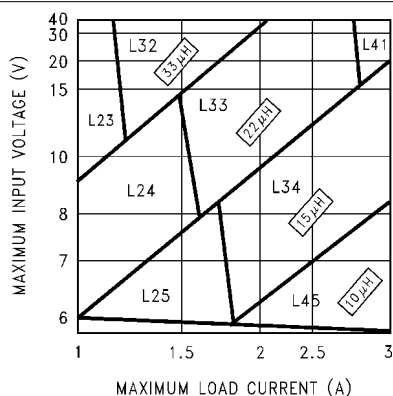
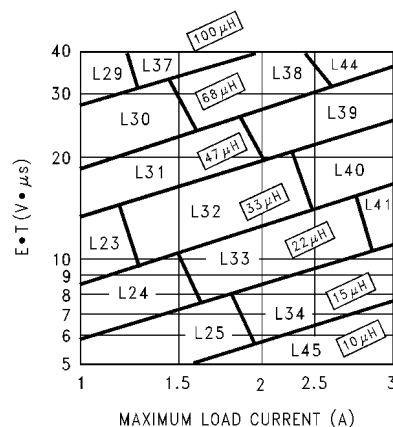

Figure 8-2. LM2676-3.3
Figure 8-5. LM2676-ADJ
Step 3: Determine the inductor required by using one of the four nomographs (Figure 8-2 through Figure 8-5). Table 8-3 provides a specific manufacturer and part number for the inductor.
Step 5: Determine an input capacitor from Table 8-7 or Table 8-8 for fixed output voltage applications. Use Table 8-1 or Table 8-2 to find the specific capacitor type. For adjustable output circuits, select a capacitor from Table 8-1 or Table 8-2 with a sufficient working voltage (WV) rating greater than V_{IN} max, and an RMS current rating greater than one-half the maximum load current (two or more capacitors in parallel can be required).
Step 3: Use the nomograph for the 3.3-V device (Figure 8-2). The intersection of the 16-V horizontal line ($V_{IN \text{ max}}$) and the 2.5-A vertical line ($I_{LOAD \text{ max}}$) indicates that L33, a 22- μH inductor, is required.